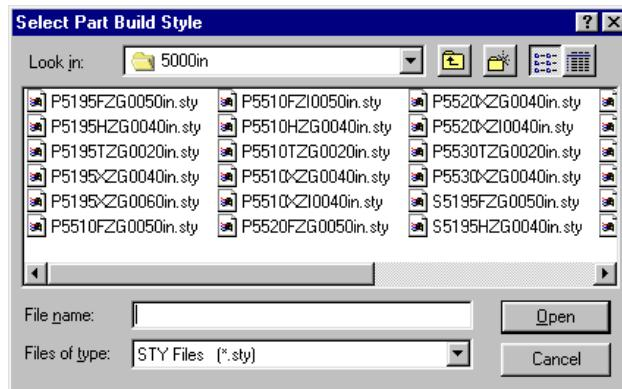

Figure 67. Select Part Build Style Window
1. Click the... **Browse...** button to open the "Select Part Build Style" window (Figure 67).